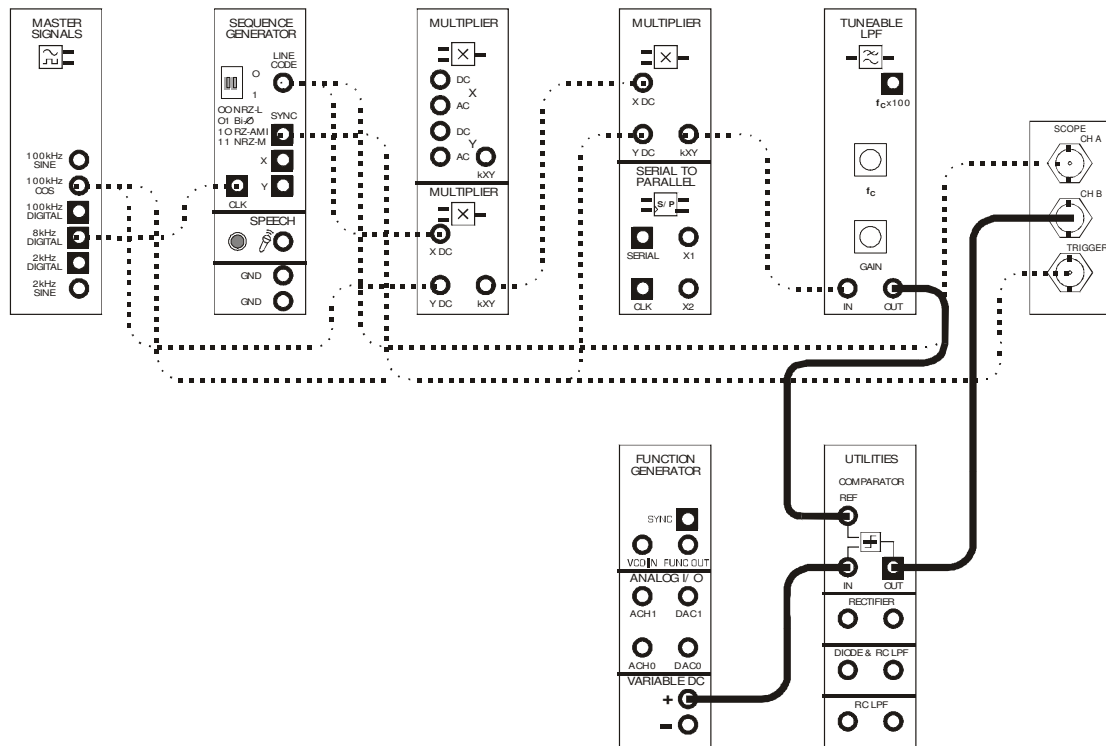

Figure 7
27. Modify the set-up as shown in Figure 7 below.